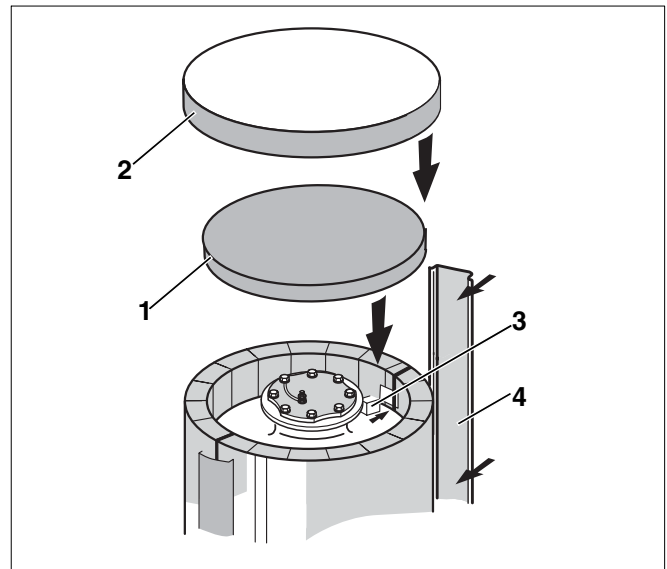

Fig. 12 Thermal insulation – top access port
- Place cover strip (Fig. 12, **Item 4**) on the sealing strip of the thermal insulating jacket.
- Position rectangular thermal insulating plug (Fig. 12, **Item 3**) in the cutout from the inside.
- Place thermal insulating disk (Fig. 12, **Item 1**) on the top access port so it contacts the edge of the thermal insulating jacket.
- Place tank cover (plastic cover, Fig. 12, **Item 2**) over the thermal insulating disk and the edge of the thermal insulating jacket.